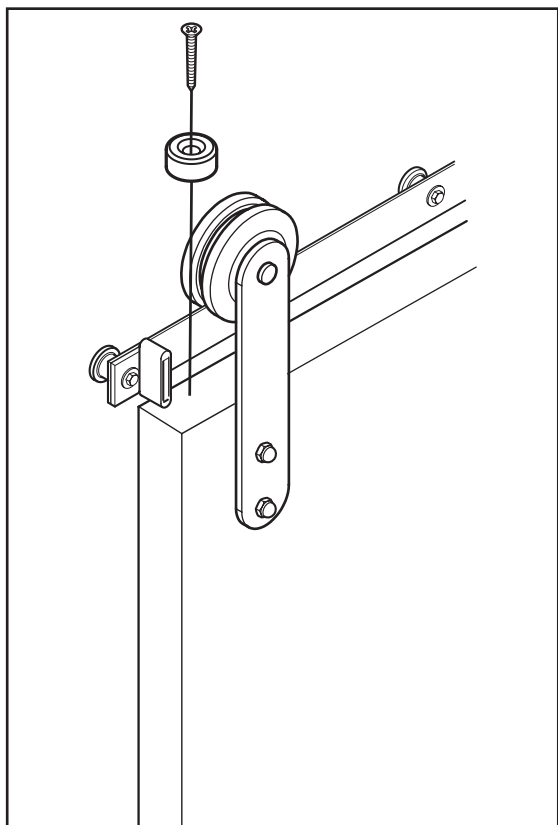

Figure 14
28. Place the Anti-Jump block on the top of the door (Figure 14). Using a drill with a phillips bit, install the the block with the 1" phillips screw (provided).